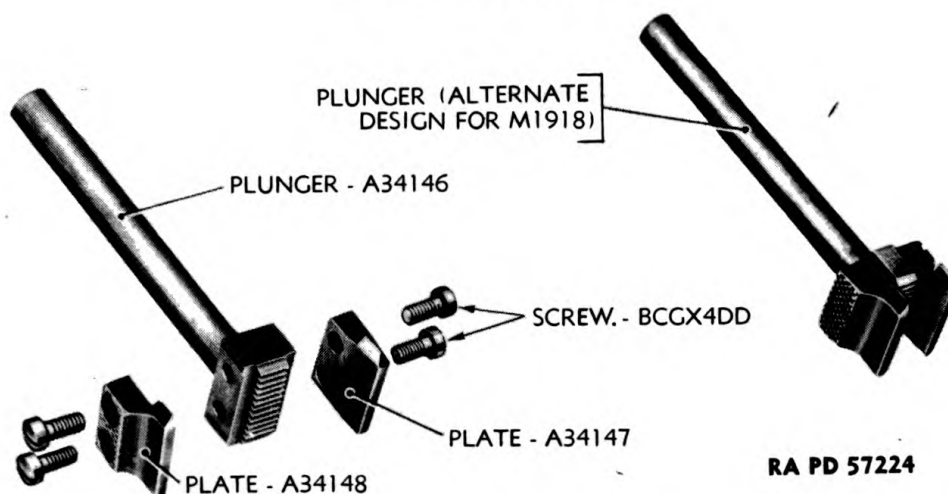

Figure 12—Gunner's Quadrants M1 and M1918—Plungers
- (6) **DISASSEMBLE PLUNGER ASSEMBLY** (fig. 12). Remove the four screws holding the two plates to the end of plunger, and remove plates. Scribe mark the plates so that they will be properly replaced.
b. **Assemble Plunger Assembly** (fig. 12). Secure the two plunger plates in their proper places on end of plunger assembly with four screws.